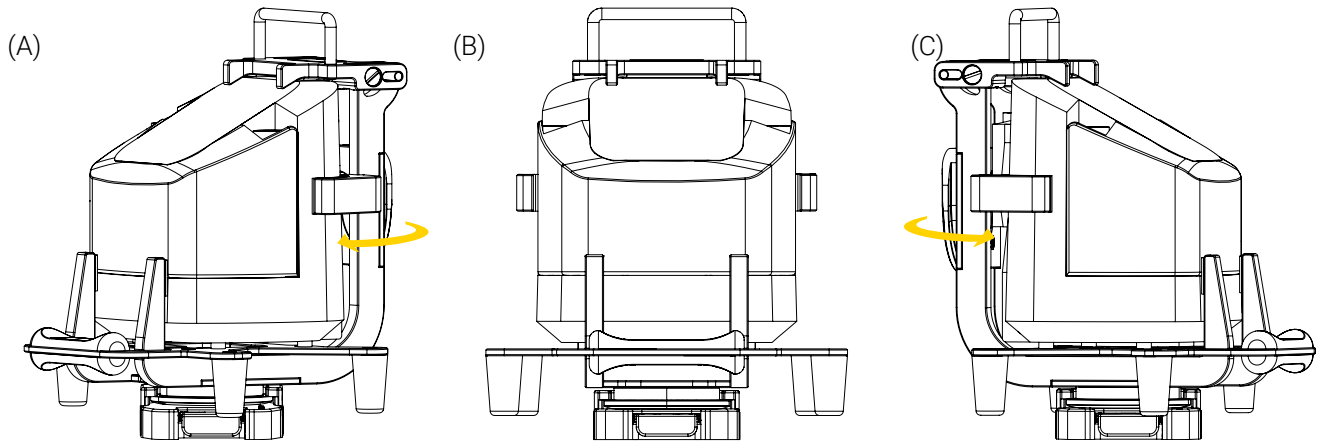

Figure 13: Operating the Bracket Pro Serie 61 – GR
3. For mounting systems with a bottom micro discs, turn the mounting system clockwise or counterclockwise (Figure 13), to the desired position if needed.